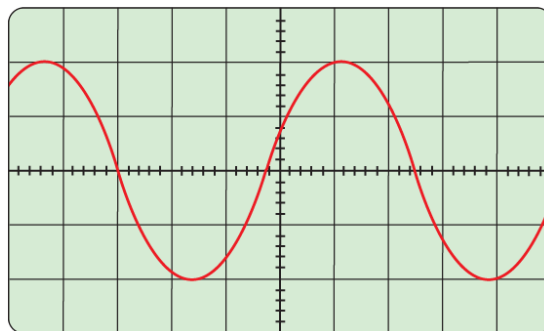

Figure 2. Measuring voltage and period using a CRO
- Figure 2 shows an example of how to determine the peak-to-peak voltage, the period and the frequency of a sine wave. The procedure is: